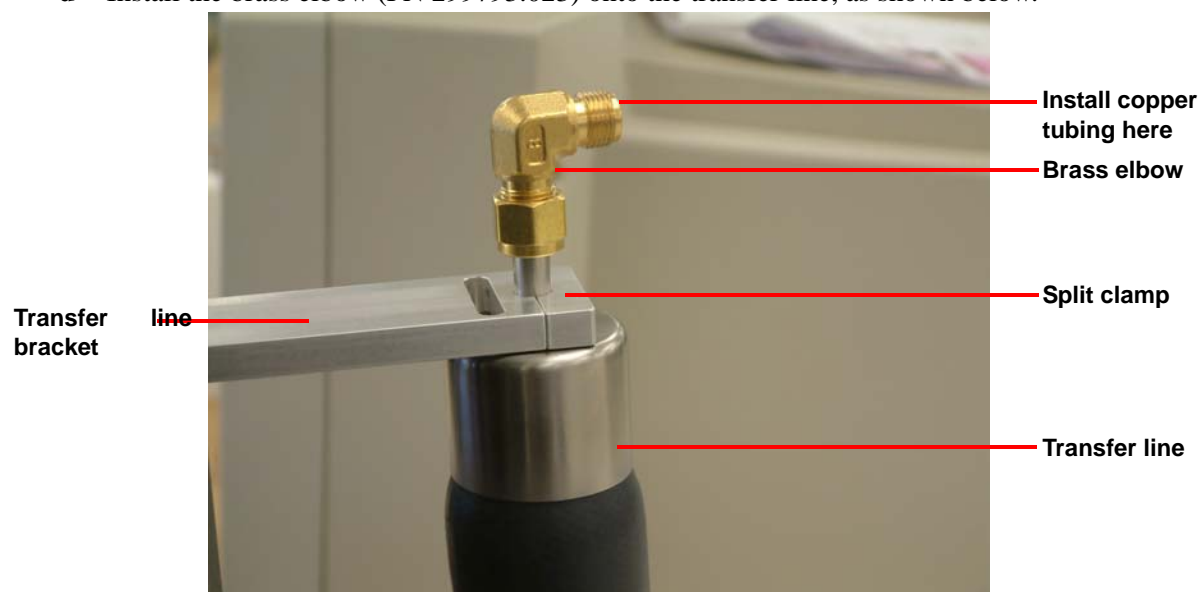

Figure 9 Transfer line installed on Chiller Panel transfer line bracket and brass elbow.
- c Install the other end of the transfer line onto the Chiller Panel transfer line bracket using a split clamp, as shown in Figure 9. Note that it may be necessary to adjust the bracket in order to properly install the transfer line.
- 7 Attach the copper tubing to the brass elbow (refer to Figure 9 for location).